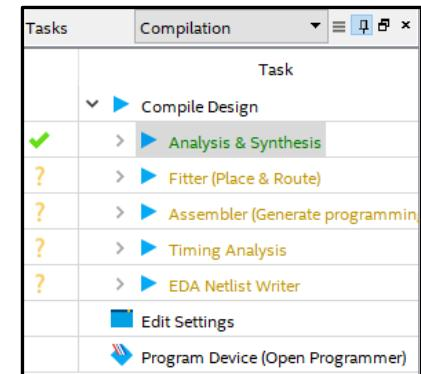

Figure 6: Completed Functional Compile
- To functionally compile your design, double click the “Analysis & Synthesis” in the Compilation window shown in Figure 6 or select the symbol  . Figure 6 shows the result of the Functional Compiling.